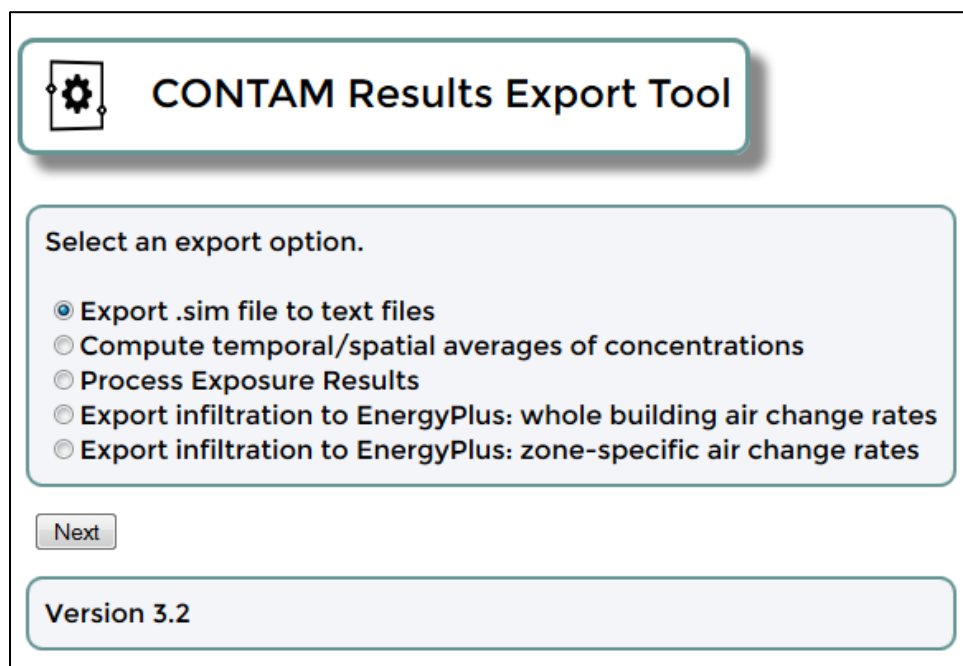

Figure 1. CONTAM Results Export Tool user interface (or “Home Screen”)
CONTAM is a multizone indoor air quality and ventilation analysis program developed by the National Institute of Standards and Technology (NIST) (Dols and Polidoro 2015). CONTAM generates a wide range of different simulation outputs in the form of binary and text-based files. CONTAM provides the ability to view a limited set of these results via the CONTAM graphical user interface, but many users require access to a much broader range of results. The CONTAM Results Export Tool (subsequently referred to as “Export Tool”) was created to provide access to all of the results that can be generated by a CONTAM simulation. It does so by reading the binary result files and converting them to tab-delimited text files that can be read using a spreadsheet program. The results that can be exported include contaminant concentrations; zone temperatures; weather conditions; airflows through individual paths, ducts and duct leakages; temporal and spatial averages of zone concentrations; and exposure results. The Export Tool also includes the ability to export infiltration rates for use in simulations performed with the EnergyPlus whole-building energy simulation program. This document describes five features of the Export Tool: (1) general conversion of binary results to text, (2) computing temporal and spatial averages of zone contaminant concentrations, (3) exporting occupant exposure results, (4) exporting whole-building air change rates from a CONTAM simulation for use in EnergyPlus, and (5) exporting zone-specific air change rates from a CONTAM simulation for use in EnergyPlus. The Export Tool is available, along with CONTAM and other NIST-developed software, on the NIST Multizone Modeling Website <http://www.bfrl.nist.gov/IAQanalysis>. The user interface (or “Home Screen”) is shown in Figure 1.
1. On the CONTAM Results Export Tool Home Screen (Figure 1), select the “Export .sim files to text files” radio button then click the “Next” button.